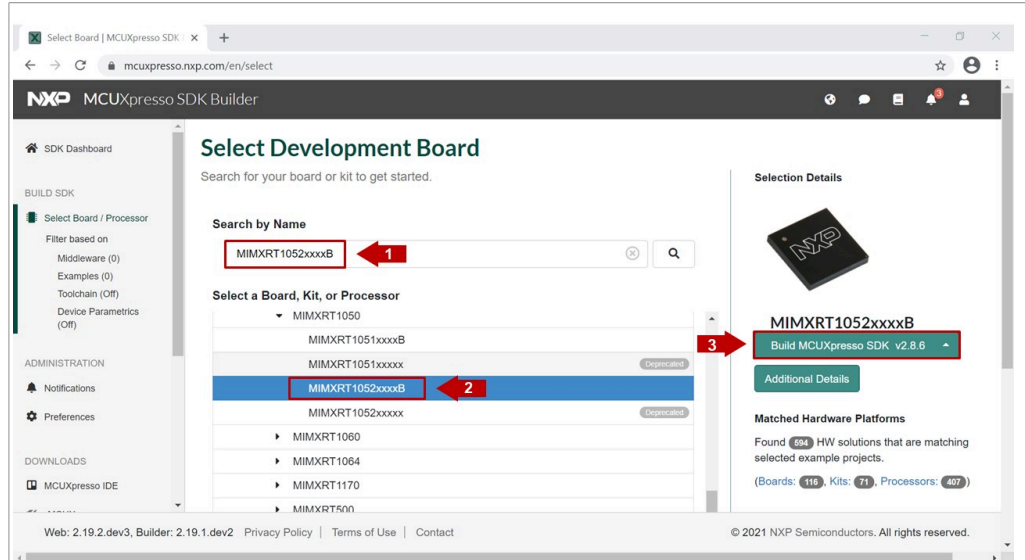

Figure 10. Select MIMXRT1052xxxxB development board
3. Type MIMXRT1052xxxxB on the text box (1), select it (2) in the *Processors* drop-down list and click (3) **Build MCUXpresso SDK** button as shown in Figure 10: